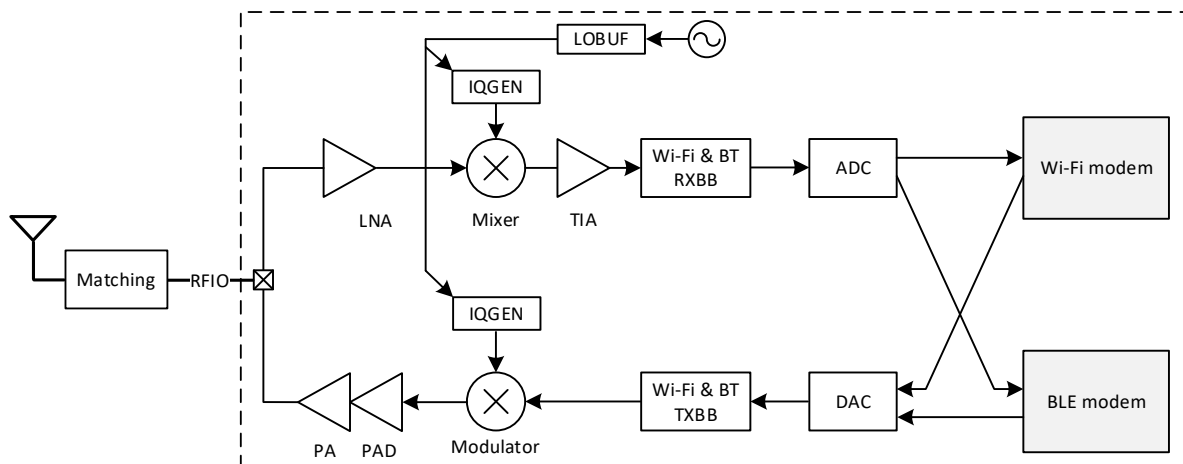

Figure 3-6 RF block diagram
The Radio Frequency (RF) block diagram of RTL8713EC, including WLAN and BLE modem, is given in Figure 3-6.